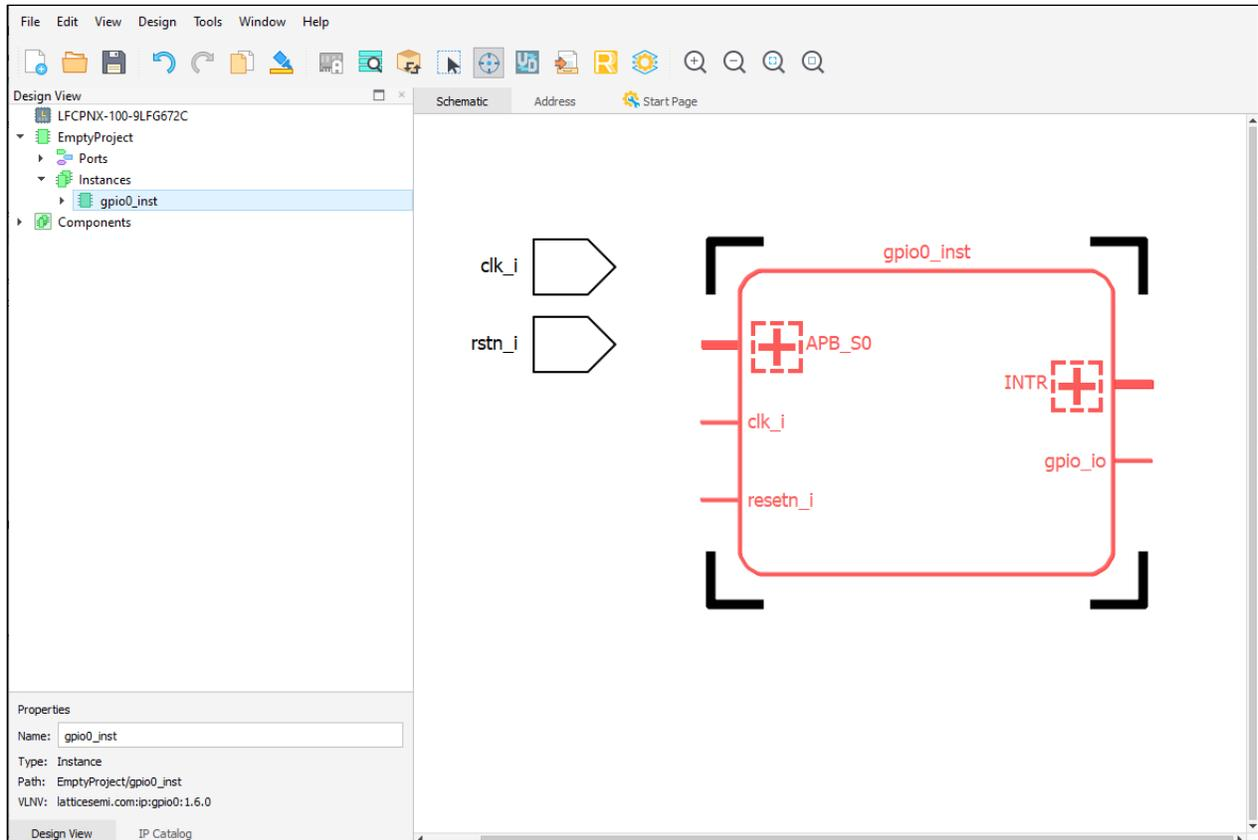

Figure 2.35. Locate Objects
2. Select the object in the List view of the Design View. The selected object is in the center of the Schematic View (Figure 2.35).